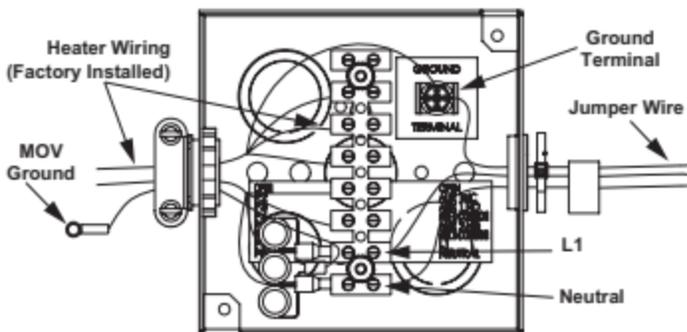

Figure 38. Electrical Wiring - Junction Box
The 120-VAC hot wire from the power supply must connect to the black jumper wire or the "L1" terminal block location in the junction box and the 120-VAC neutral wire must connect to the white jumper wire or the "Neutral" terminal block location in the junction box for correct polarity. See Figure 38 on page 39.
3. Connect the 120-VAC hot wire from the power supply to the black jumper wire or the terminal block location marked "L1" inside of the junction box located on top of the water heater. If the black jumper wire is used, make the connection inside of the junction box with a properly-sized wire nut. Wrap electrical tape around the wire nut and wire end. See junction box Figure 38 on page 39 and the wiring diagram Figure 47 on page 63.
5. Connect the 120-VAC neutral wire from the power supply to the white jumper wire or the terminal block location marked "Neutral" inside of the junction box located on top of the water heater. If the white jumper wire is used, make the connection inside of the junction box with a properly sized wire nut and wrap electrical tape around the wire nut and wire end. See junction box Figure 38 on page 39 and the wiring diagram Figure 47 on page 63.
7. Connect the ground wire from the power supply to the grounding lug inside the junction box. See junction box Figure 38 on page 39 and the wiring diagram Figure 47 on page 63.